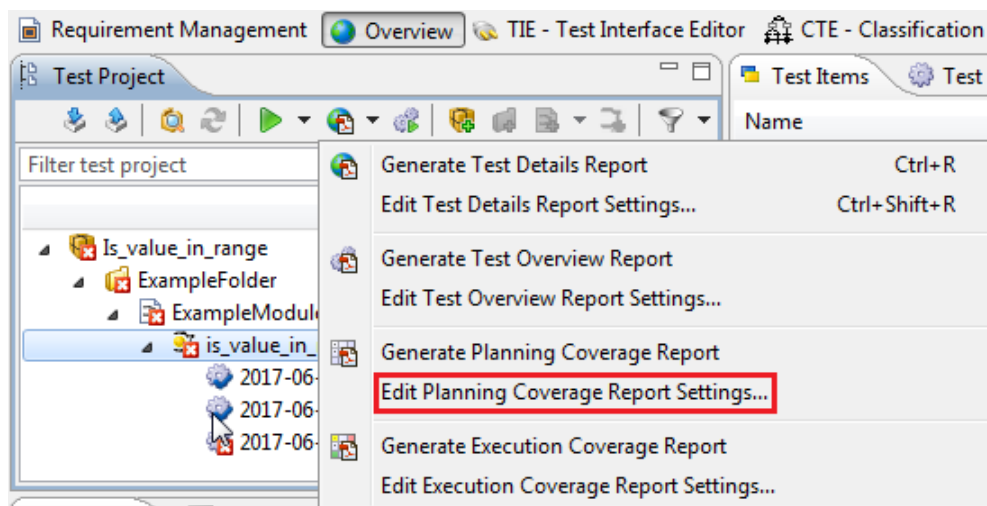

Figure 5.36: Editing the settings of a Planning Coverage Report
- Select “Edit Planning Coverage Report Settings...” (see figure 5.36).